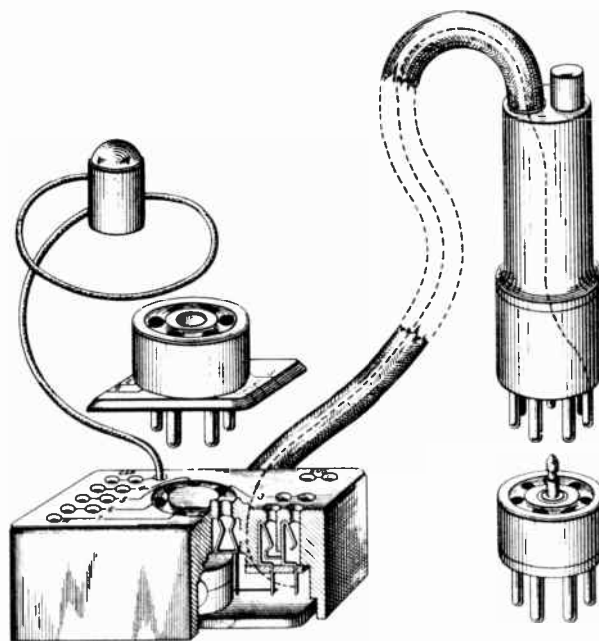
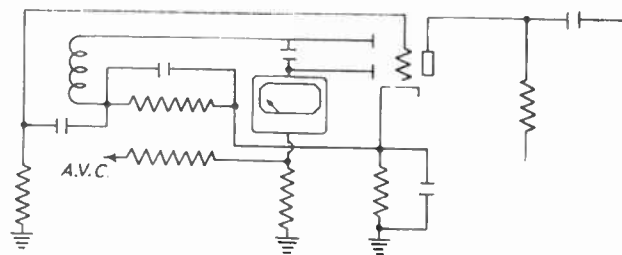

Figure 3 Weston Model 666 Socket Selector
Figure 13
- (d) With a switching means such as originally supplied on analyzers the circuits in question were opened up and the instrument inserted by the manipulation of proper switches. See Figure 3. When the Weston Model 666 socket, cord and plug, arrangement is used the milliammeter is connected into the circuit by the proper manipulation of the patch cords without disturbing the radio set wiring in any way. See the details shown in the cutaway portion of the socket pictured in Figure 3.
3.4—The selector block is molded with a small 7 prong socket connected through suitable jacks to a cord and plug. See Figure 3. Opposite each pin with the exception of the filament, a double set of jacks appears. The inner jack is used only for current measurements while the outer jack is available for all voltage tests. The inner jack contains a built-in switch which opens when a test pin is inserted in the jack. The cut-away section of the block showing how this jack operates is shown in Figure 3. To make a current measurement or in other words, to insert the milliammeter in series with any electrode it is merely necessary to plug into the two jacks opposite this particular electrode. Automatically the meter is connected in series and will read the current in that particular circuit.
- 3.15—Measurements of rectified diode current are of vital importance in making tests of a.v.c. and diode detector action on receivers. See Figure 13. Diode currents seldom run over 100 microamperes and are usually somewhere between 1 and 50 microamperes. A diagram showing the method of taking these measurements in a typical diode detector and a.v.c. circuit is shown in Figure 3. If a 1 megohm resistor is used in the a.v.c. circuit connecting from the diode plate to ground, the a.v.c. bias can be read directly on the instrument by converting each reading in microamperes directly to volts, as 1 microampere through one megohm will give a reading of 1 volt. In most cases the 100 microampere range is used for tak-
- 3.19—A multiplier for the top d.c. ohm range can be made if even higher ohm readings are desired. See Figure 13. The extreme sensitivity of the tester makes it possible and by adding 60 volts of "B" battery (anything from 50 to 70 volts will do) in series with the ohm jacks shown in the circuit below a 5 to 1 multiplier giving readings up to 150 megohms may be used. It should be noted that a 1 megohm resistor is used and to obtain accurate readings this resistor should be adjusted to 1%. If the voltage in the battery allows adjustment of the pointer to top mark when the leads are shorted together, the readings on this top range will multiply exactly by 5 if the external resistor used has been accurately adjusted and is so constructed that it will hold its accuracy through moisture and temperature variations. This additional 5 to 1 multiplier is often valuable in measuring paper condensers for leakage as estimates of as high as 200 and 250 megohms can be made by watching the pointer. Top reading on this range would be 150 megohms.